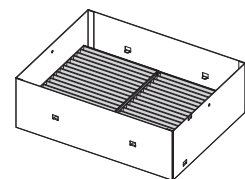

Fig. 3
- When the two air filter units are attached **(Fig. 3)**, proceed to “Attaching the long life filter cover” (➔ page 283) next.